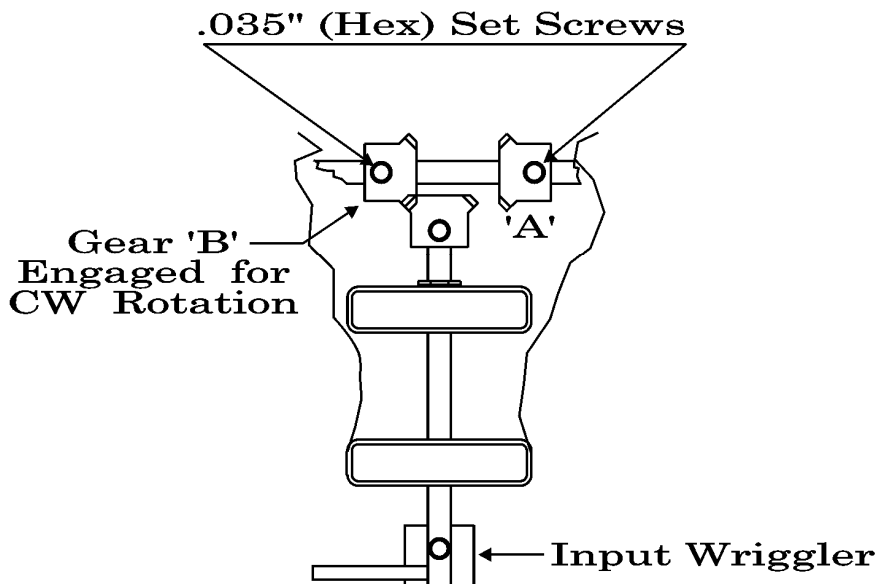

Figure 2-7. TeleCounter Assembly (1 to 1 Gear Ratio) Rotation Adjust Diagram
1. Remove the seven (7) screws which secure the face plate to the front of the TeleCounter assembly,
2. Using a .035" Hex wrench, loosen the set screw associated with drive gear 'A' (CCW) or 'B' (CW) and slide this gear to its resting position. Tighten the drive gear's set screw (see *Figure 2-7* and *Figure 2-8*).
4. Replace the face plate securing it with the seven (7) screws removed in step 1.